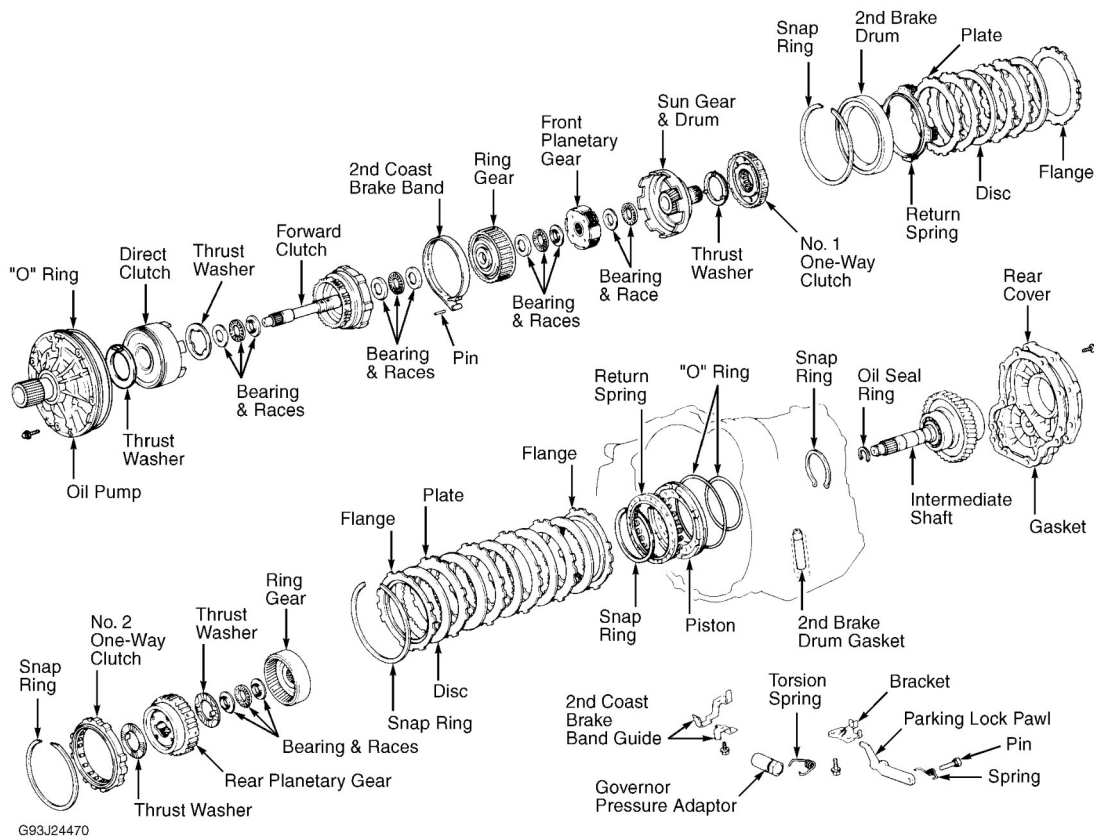

Fig. 11: Exploded View Of Transaxle Internal Components
6. Remove forward clutch. Remove race and thrust bearings from forward clutch. Using small screwdriver, push 2nd coast brake band pin inward and remove from oil pump mounting bolt hole. Remove 2nd coast brake band. Remove front planetary ring gear. See **Fig. 11** . Remove bearing and race from ring gear.
10. Remove parking lock pawl bracket. Remove parking lock rod. Remove pin, spring and parking lock pawl. Remove manual valve shaft spring, collar and pin. Remove manual valve lever from transaxle case. Remove manual shaft oil seal. Remove governor pressure adaptor from transaxle case. See **Fig. 11**.